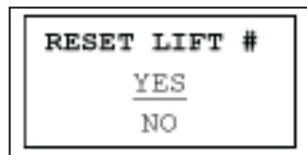

Fig. 4 Reset Lift Number
3. Press OK to select RESET LIFTS. The screen shown in Fig. 4 will appear. YES will flash.